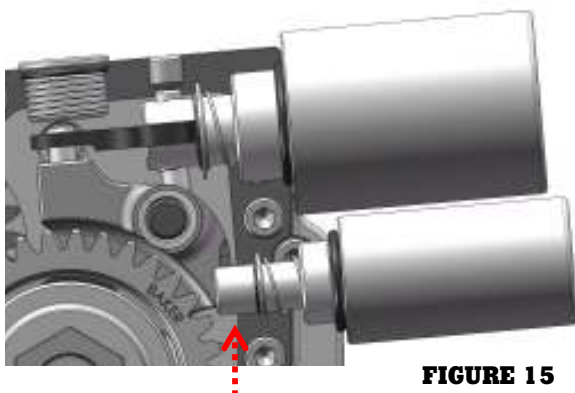

FIGURE 15
- 1) With all of the wires hooked up and double checked against Figure 15, you are ready to do a reverse functionality test. Temporarily hook up the battery. With the bike ignition on, and the bike in neutral, the first check is that the Safety Switch (the momentary style switch) activates the Safety solenoid. You will hear an audible 'click' of the solenoid. This let's you know that you have the wires hooked up correctly. If you do not hear an audible click then, you need to double check that the safety (smaller diameter, lower solenoid) is hooked up to the momentary switch.
- 1) With reverse installation validated by passing the reverse function test, you ready to install the side cover and ball and ramp cover for good. Using 'blue' thread lock, install all of the side cover bolts and torque to them to 130 in-lbs using the numerical torque sequence in Figure 15. Following the alpha torque sequence in Figure 15, and using 'blue' thread lock, torque the ball and ramp cover bolts to 130 in-lbs as well.